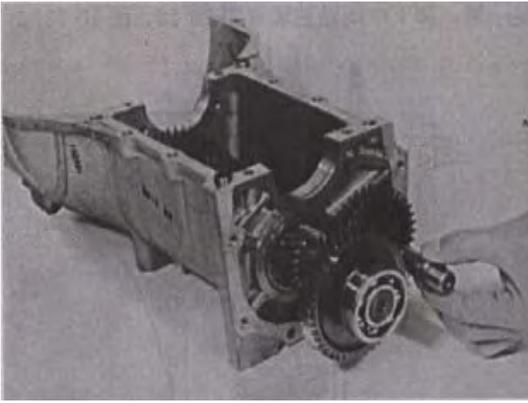

Fig 10-19
- (1) Remove reverse gear shaft with gear. (FIG.10-19)